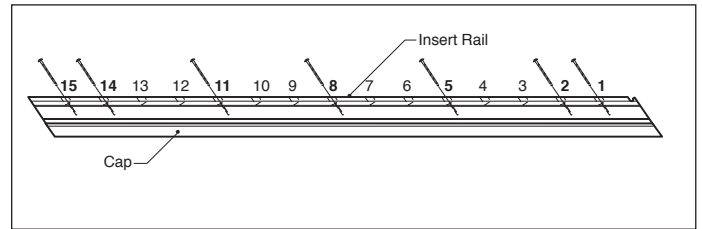

fig. 3
Step 2: Place the moulded cap rail upside down on a flat surface. Next, place the top 2x4 rail with the notch on the same side as the baluster holes into the moulded cap rail channel so that the holes are facing up. Starting from either end, fasten the rails together using the (7) 4" screws through holes 1, 2, 5, 8, 11, 14, 15. If rails are trimmed, predrill any additional holes with a 1/8" drill bit and insert the screw into the next nearest hole (**fig. 3**).